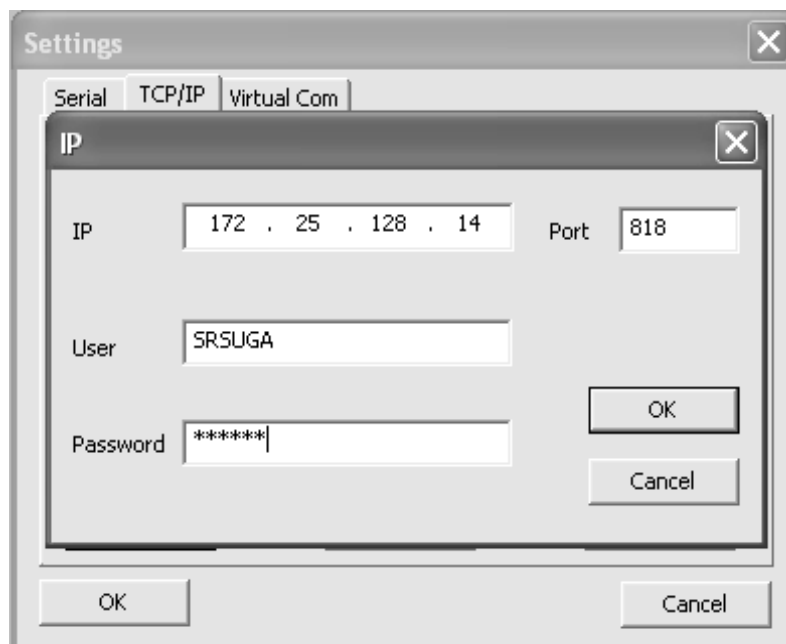

Fig. 2-28. Screenshot of Ethernet data input dialog in RGA.exe
- Click 'Add' button then new data input dialog box will appear (Fig. 2-28).